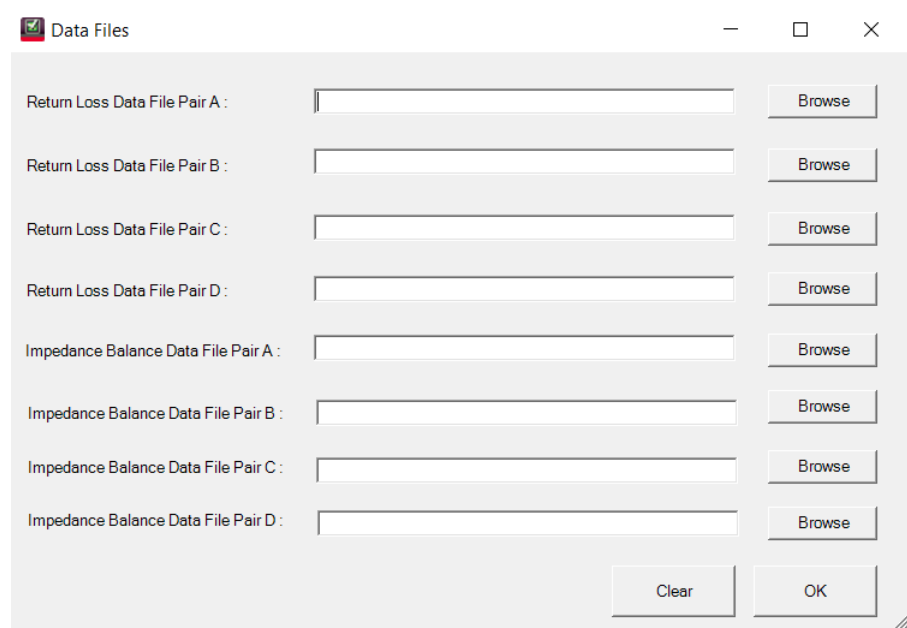

Figure 52 Data File selection pop-up box
- 12 Click the **Edit...** button to access the **Return Loss Data Files** dialog and select the data file for each pair, as shown in Figure 52.